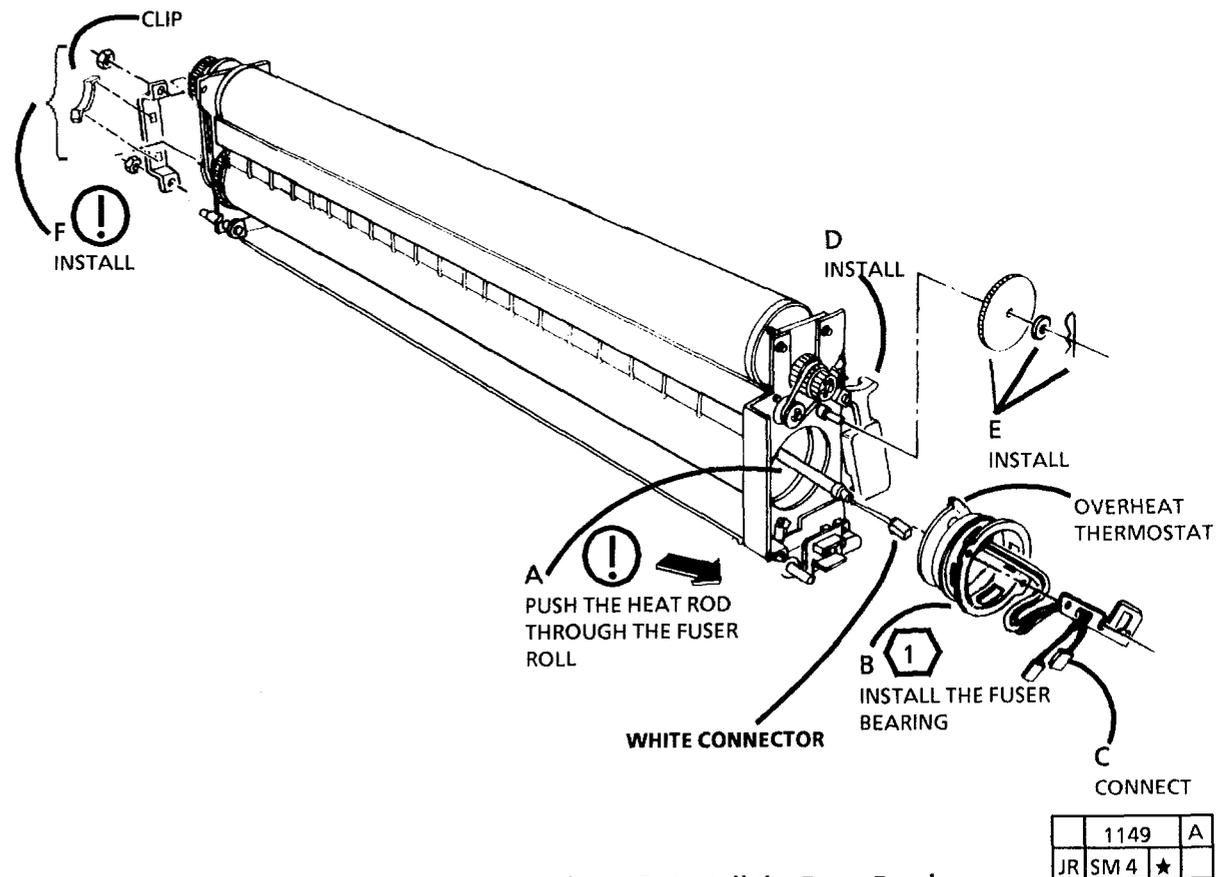

Figure 3. Install the Fuser Bearing
2. (FIGURE 3): INSTALL THE FUSER BEARING.